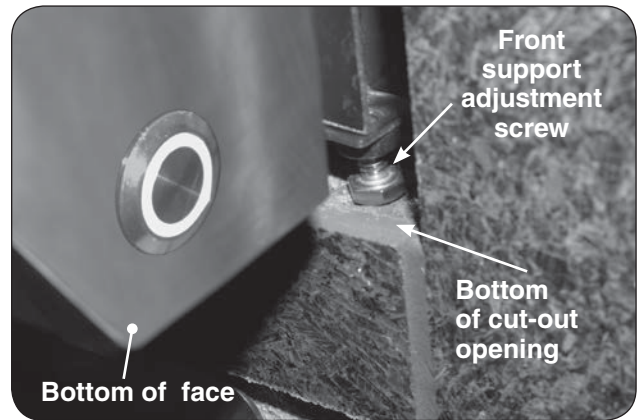

Fig. 22-1 Front support adjustment screws
- Rotate the front support adjustment screws to the left to raise and to the right to lower the respective side of the appliance grill. Use a  $\frac{7}{16}$ " open-end wrench as needed. See Fig. 22-1.